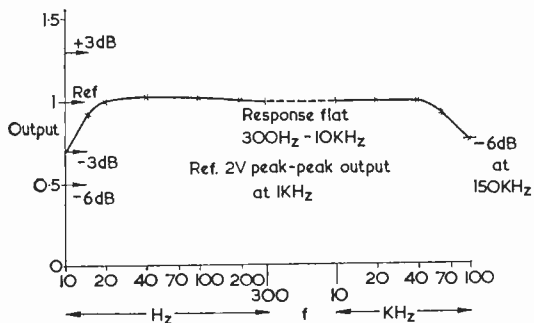

Fig. 3. Response curve of the prototype Y amplifiers
- Frequency response per channel: -3dB at 10Hz and 100kHz; -6dB at 150 kHz. (See Fig. 3)
the upper useful limit of the unit, such a bandwidth is adequate for the display of square and pulse waveforms. A complete frequency response characteristic is shown in Fig. 3. Switching speeds are covered in five switched steps from 2 to 40kHz. Both amplifiers have independent gain controls while a shift control allows both traces to be transposed or superimposed at will. The output switching pulse is of sufficient amplitude to allow two 4-volt peak-to-peak signals to be displayed simultaneously without overlapping. Throughout the design, components of standard type only are used.